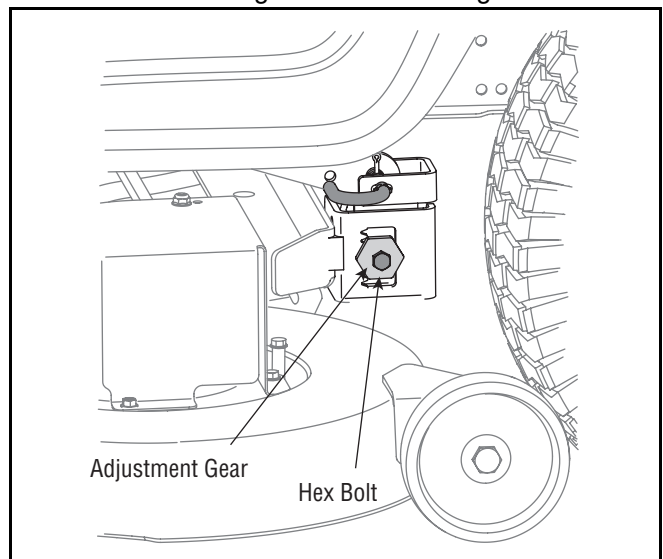

Figure 12
- Loosen, but do NOT remove, the hex cap screw on the left deck hanger bracket. See Figure 12.